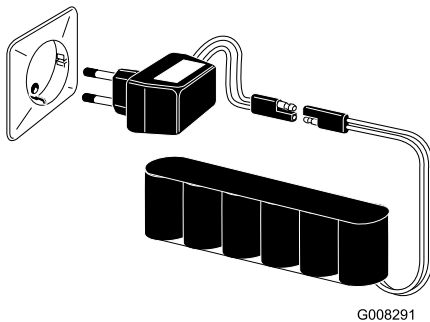

Figure 25
3. Connect the charger to the battery (Figure 25).
4. Plug the charger into a wall outlet and charge the battery for **24 hours** (Figure 25).